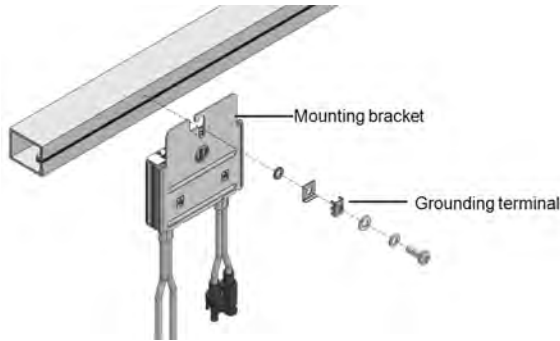

Figure 5: Power optimizer grounding terminal
- **For mounting on un-grounded structures** (such as a wooden structure): If the star washer or the plate cannot be used, use the SolarEdge grounding lug (purchased separately) with an equipment-grounding conductor according to the supplied instructions. The grounding terminal accepts a wire size of 6-14 AWG, and must be sized for equipment grounding per NEC 250.122 requirements. Tighten the screws connecting the power optimizer to the frame and the grounding terminal screw. Apply torque of 9.5 N*m / 7 lb*ft. See *Figure 5*.